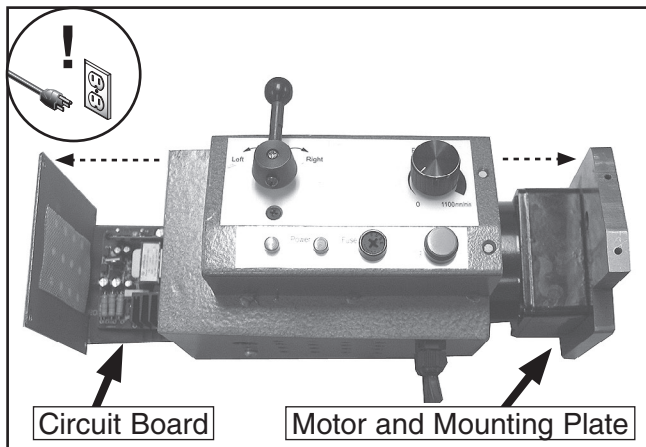

Figure 5. Power feed breakdown.
7. Carefully slide the motor and mounting plate from the housing a few inches as shown in **Figure 5**.
8. Carefully slide the circuit board and vent cover from the housing a few inches as shown in **Figure 5**.